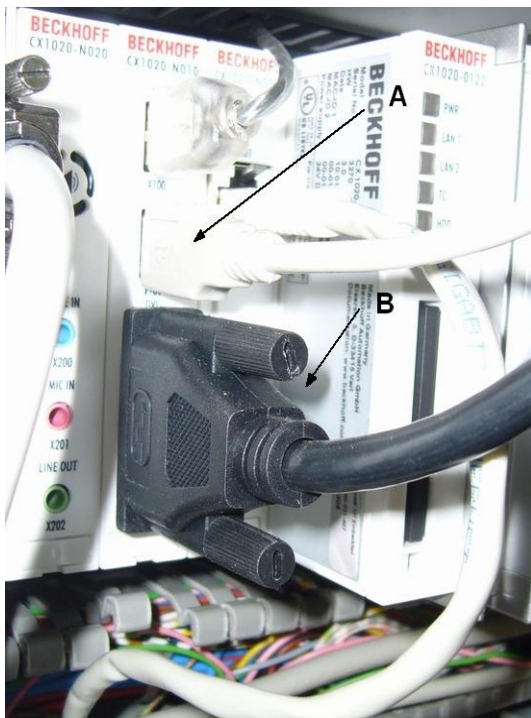
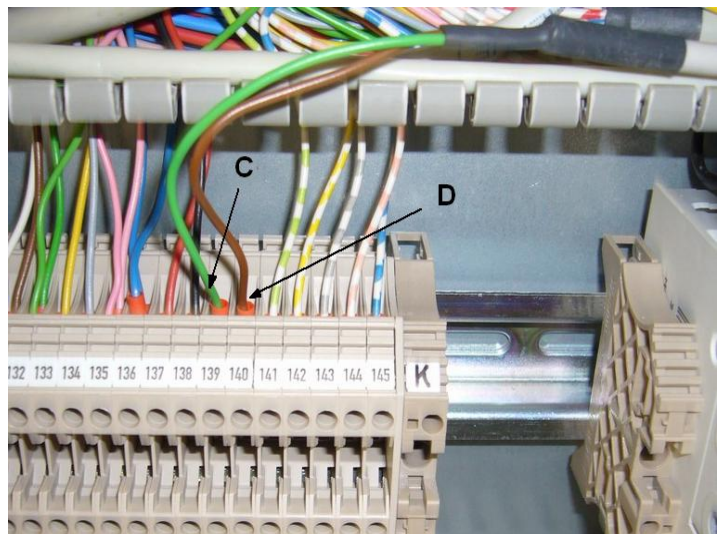

Figure 76: Plugs for Touchscreen
Figure 77: Plugs for Touchscreen (Power)
- Remove the plugs and cables A,B,C=green, D=brown (Figure 76 and Figure 77)